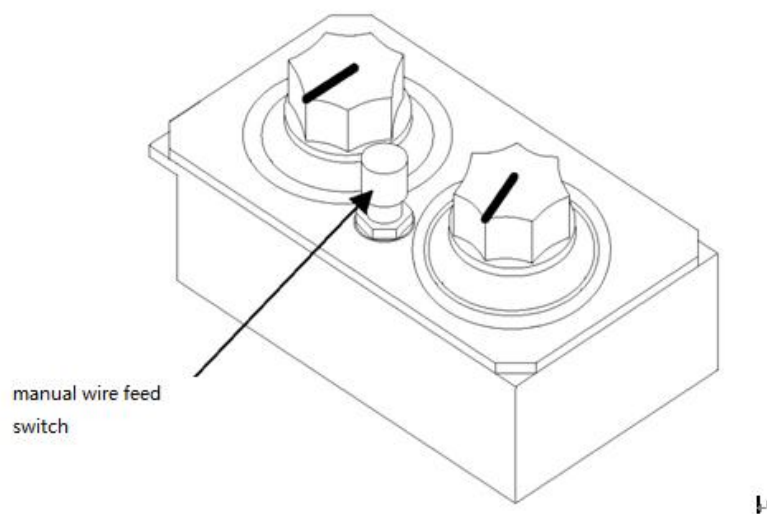

Fig.7 Wire feeder control box
Step 7: Press the "manual wire feed" button of the wire feeder control box and adjust the "welding current adjustment knob" to make the wire feed speed suitable until the 15-20 mm wire is exposed at the torch head. (Manual wire feed switch is shown in Figure 7)